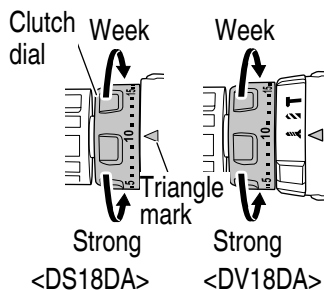

Fig. 17
## (2) Tightening torque indication (See Fig. 17)
## (3) Adjusting the tightening torque (See Fig. 17)